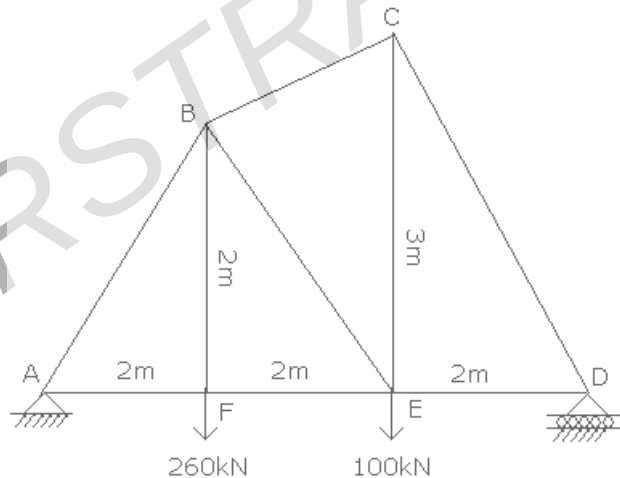

Figure 7
- Analyse the frame shown in Figure 7. [16]